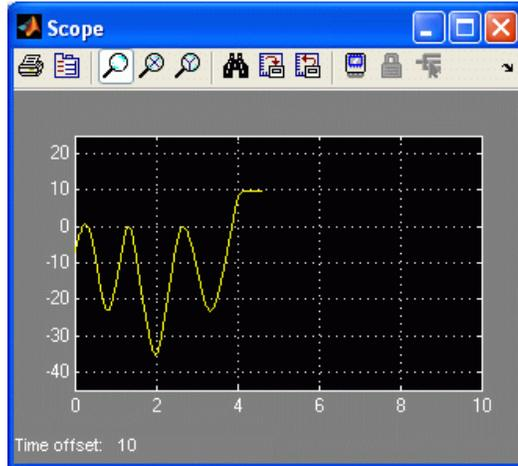
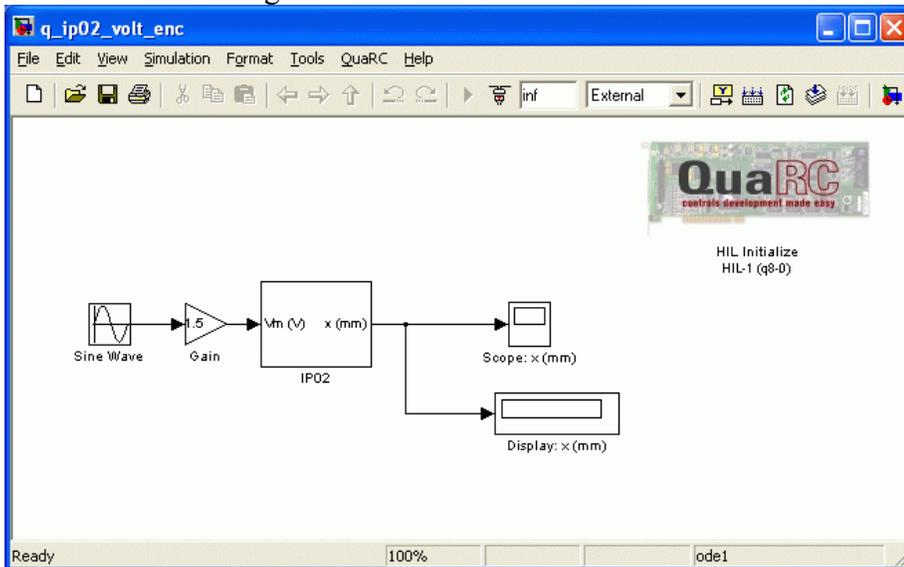

Figure 12: IP02 cart position measured with encoder.
Figure 14 Model using the IP02 Subsystem
14. Manually move the IP02 back-and-forth along the track and examine the response in the Scope. The measurement will be very small. To zoom up on the signal, click on the *Autoscale* icon in the scope or adjust the range of the y-axis manually. The Scopes should appear similarly as shown in Figure 12.
Step 3. Figure 14, below, provides an example of model using the IP02 block. Create and run in real-time the model represented in Figure 14. You should be able to replicate the observations previously made in Sections Applying a Voltage to the DC Motor and Measuring from the IP02 Cart Encoder.
It has been shown how data from the output of a block can be displayed in a Scope. However, this data can also be displayed using a Digital Display. It is sometimes beneficial to view the numerical value of the block at that time instant. In the Simulink diagrams shown in Figure 12 and Figure 14 for example, the measured cart position is displayed numerically.